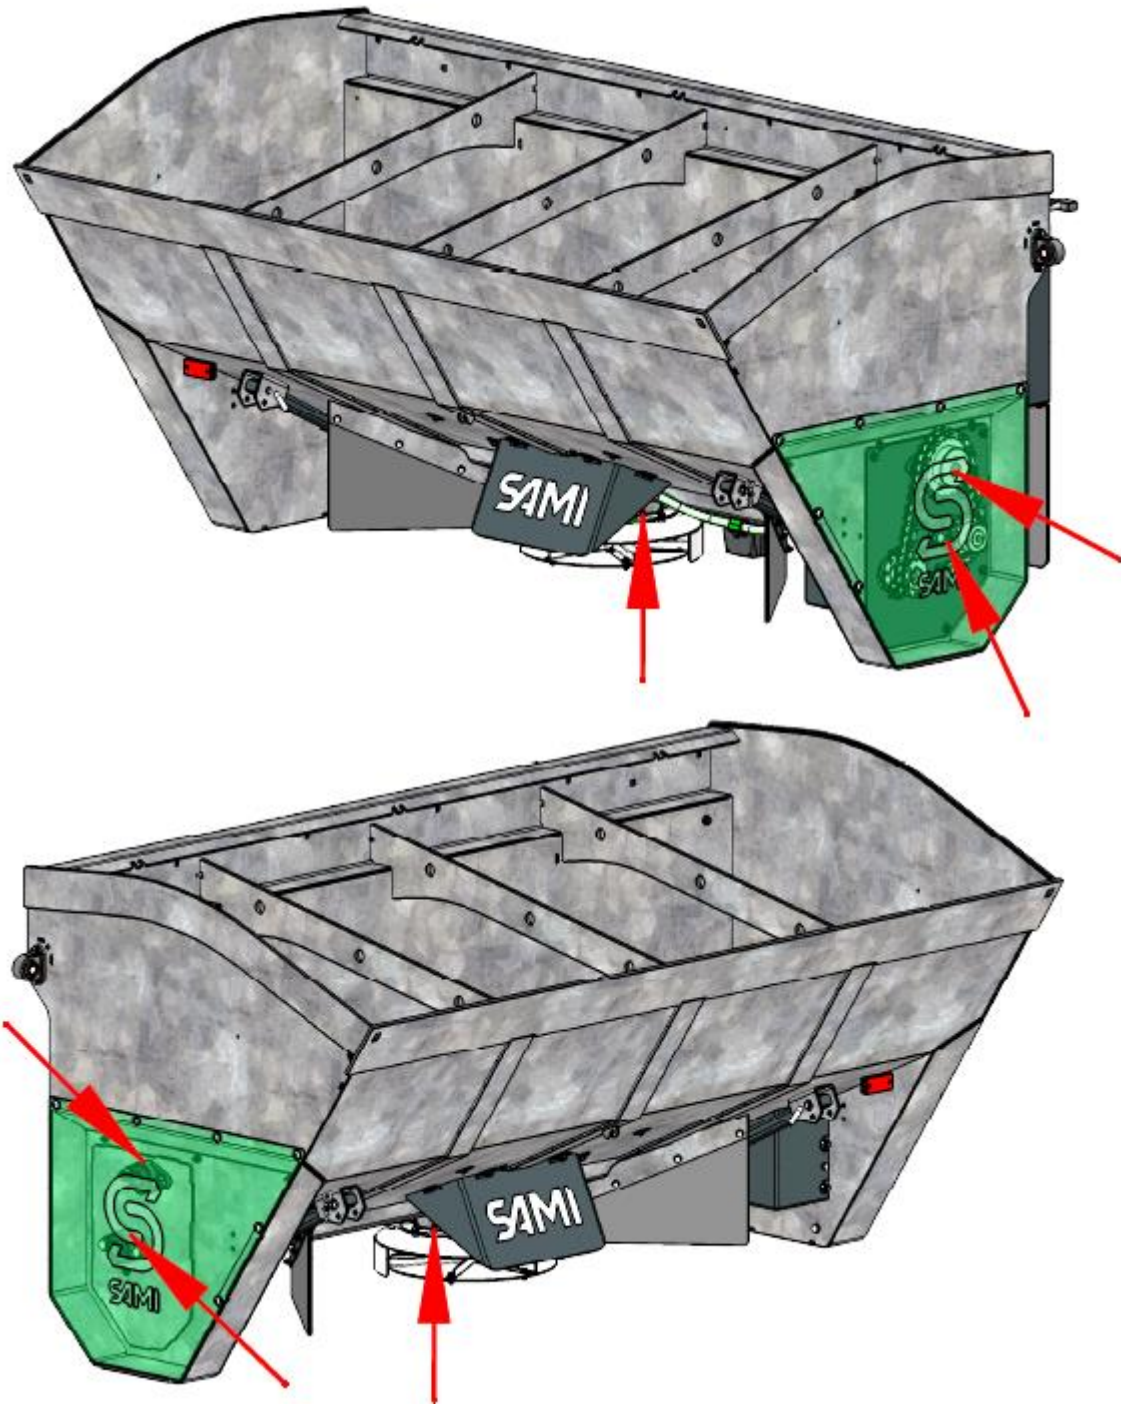

Figure 19. Positions of the grease nipples.
- The positions of the grease nipples are shown on Figure 19. Grease after each 40 working hours or as necessary.